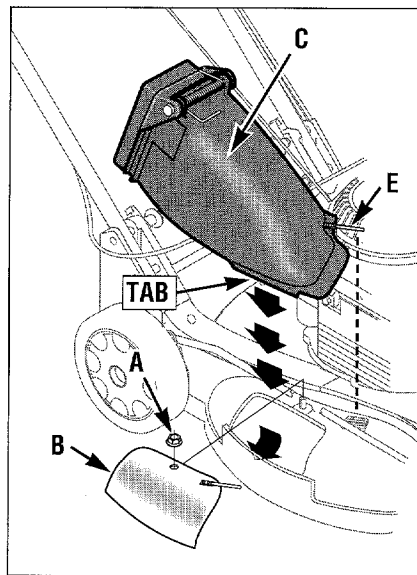
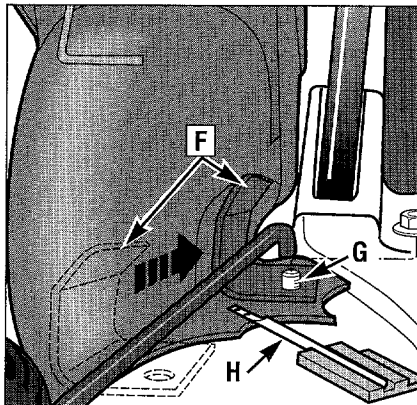

Figure 4-14: Installing Grass Catcher Boot.
Figure 4-15: Install brace on boot.
B. Adjust cutting height to mid-range setting. Remove toplock nut (A, Figure 4-14) which secures discharge cover (B, Figure 4-14) and then remove cover.
C. Place grass catcher “boot” (C, Figure 4-14) over opening. Make sure that tab on boot is inside rim of opening on mower deck.
D. Install metal brace (F, Figure 4-15) under mower height adjuster rod on cover stud (G). Reinstall toplock nut (A).
E. Make sure safety interlock rod (H, Figure 4-15) on “boot” is securely in place in slot on mower deck.
B. Remove bag from grass catcher “boot” (C, Figure 4-14).
C. Remove “boot” by removing toplock nut (A, Figure 4-14). Also remove metal brace (F, Figure 4-15). Store metal brace with boot for future use.
D. Reinstall discharge cover (B, Figure 4-14) by placing cover over opening. Make sure that safety interlock rod on cover is securely in slot on mower deck. Reinstall toplock nut (A).